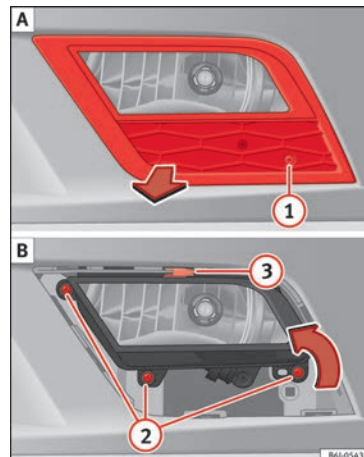
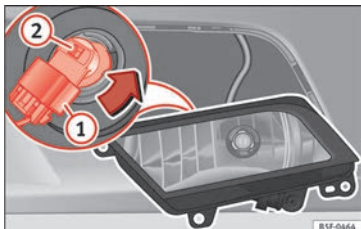

Fig. 95 Fog light: extracting the grille.
Fig. 96 Fog light: Remove the bulb holder.
- Remove the bolt » **Fig. 95** ① from the fog light grille with a screwdriver.
- Remove the 3 bolts ②.
- Remove the metal clip situated on the upper part of the fog light by pulling away from the vehicle ③ and extract the fog light.
- Remove connector » **Fig. 96** ① from the bulb.
- Turn the bulb holder » **Fig. 96** ② to the left and pull.